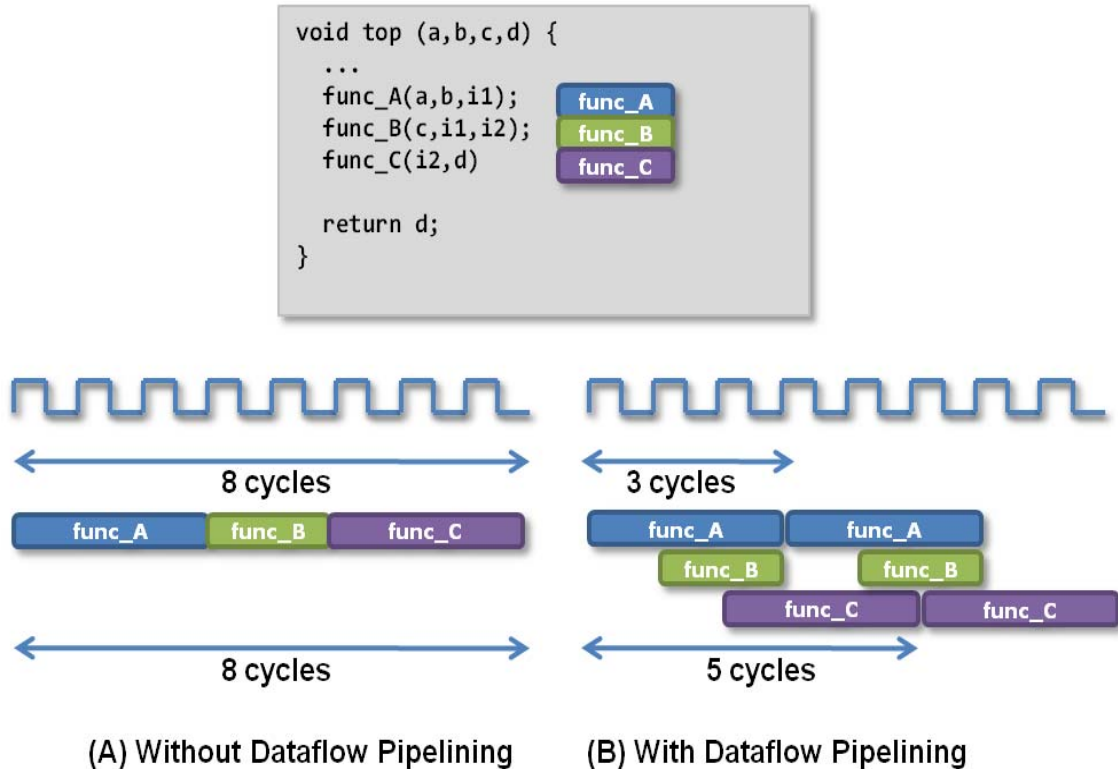

Figure 2-59: Dataflow Pipelining Behavior
The channels shown in Figure 2-58 ensure a function is not required to wait until the previous function has finished all operations before it can begin. Figure 2-59 shows how dataflow pipelining allows the execution of functions to overlap, increasing the overall throughput of the design and reducing latency.
In Figure 2-59(A) the implementation with dataflow pipelining requires 8 cycles before a new input can be processed by "func_A" and 8 cycles before an output is written by "func_C" (assume the output is written at the end of "func_C").
In Figure 2-59(B), "func_A" can begin processing a new input every 3 clock cycles (increased throughput) and it only requires 5 clocks to output a final value (shorter latency).
shown in Figure 2-59 the following command would perform function dataflow pipelining on functions "func_A", "func_B" and "func_C".
When dataflow pipelining is used, High-Level Synthesis will by default attempt to execute each RTL block starting at the same clock edge: maximum parallel behavior. If data dependencies prevent the RTL implementation of a function from executing until an earlier function provides data (as in the Figure 2-59\(B\) where "func_B" must wait 1 clock cycle for "func_A" to generate the data for "i1") High-Level Synthesis will automatically adjust the interval between one block starting execution and the next block starting execution, to the minimum possible number of cycles.
The `-interval` option can be used to specify exactly how many cycles there will be between an RTL block beginning execution and the next RTL block beginning execution. For example, if an interval of 3 is specified, there would be 3 cycles between the start of each function in Figure 2-59\(B\).